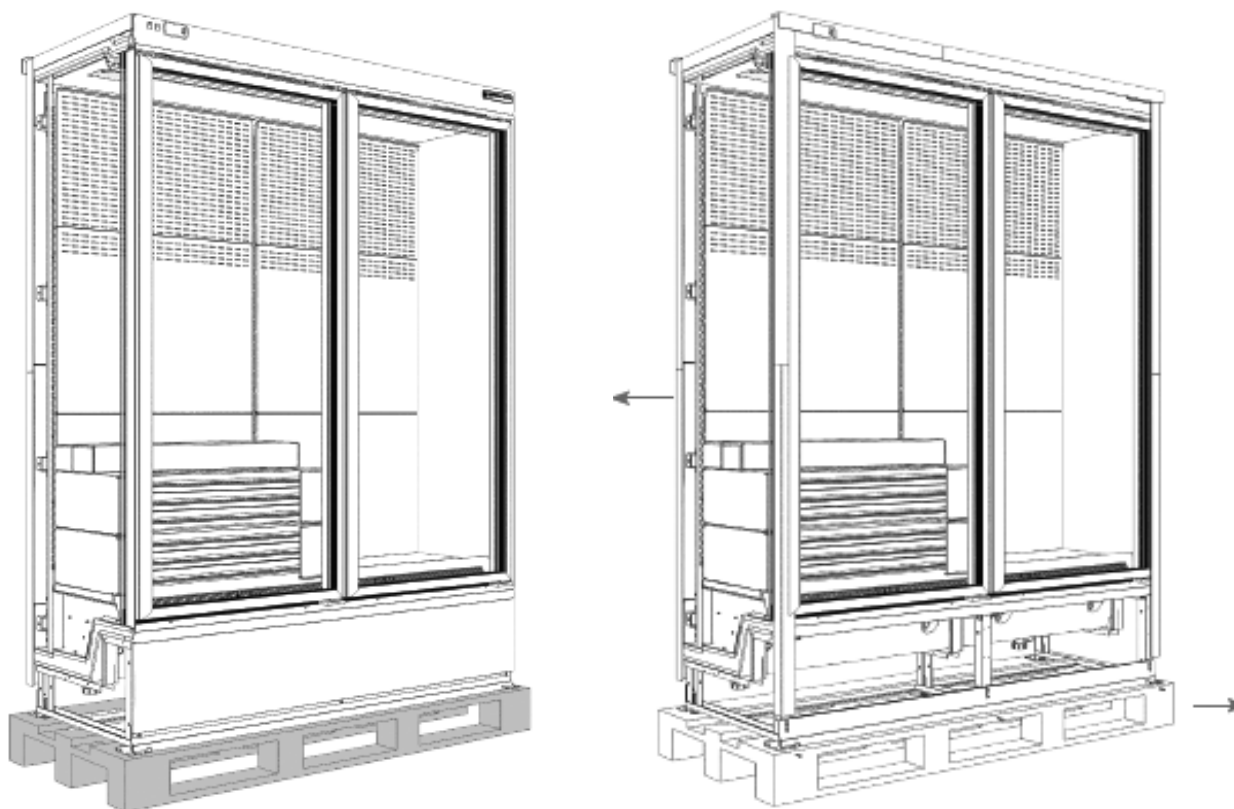

Fig. 13. Remove the multideck from pallet
- remove the multideck from the pallet (Fig. 13);